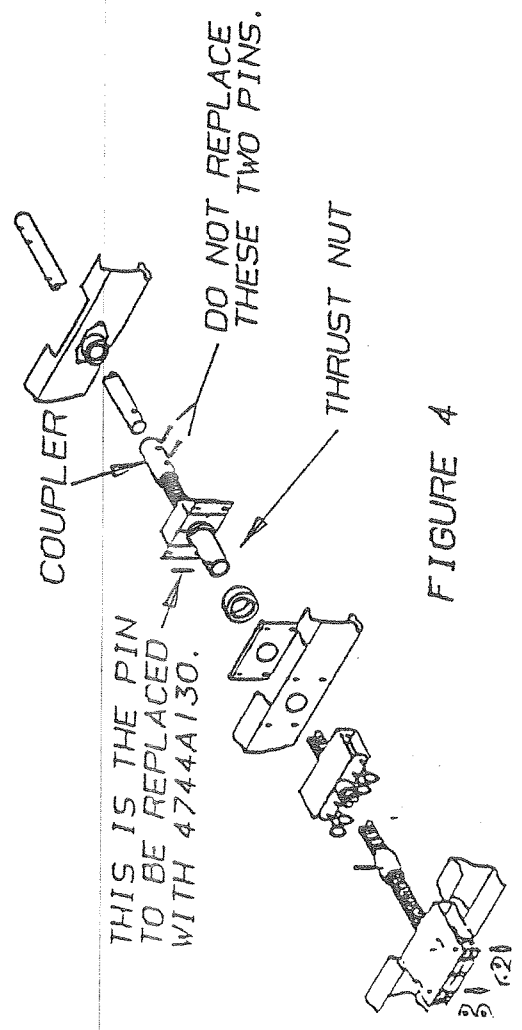

FIGURE 4
2. Due to the additional weight of the air conditioner, the thrust nut roll pin must be replaced with the 4744A130 solid pin supplied with this kit on trailers manufactured prior to September 5, 1985. The date of manufacture is listed on the certification label on the left body panel. Using a 3/16" punch and hammer, drive the existing roll pin out of the thrust nut and whiffle tree. The new solid pin supplied is slightly tapered on one end for ease of installation. Place the tapered end of the solid pin into the hole in the thrust nut and drive it into place. See Figure 4.